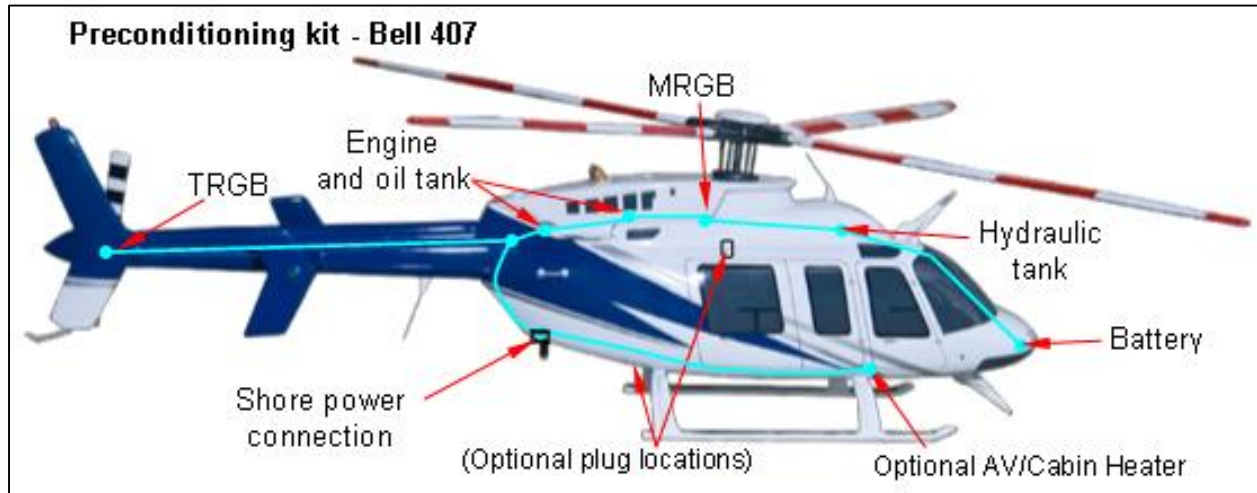

Figure 4.1. Overview of preconditioning kit.
1. External shore power connection: TD03095 2-place door kit. Locate in right side of aft lower tail boom fairing refer to Figures 4.1., 4.8., and 4.9. For optional door sites and kits refer to Appendix B.
4. Cable kit TCH3082 with CPD: Locate junctions, and CPD (fused link) in serviceable areas that allow leads to reach corresponding components and route accordingly refer to Figures 4.1. through 4.16.